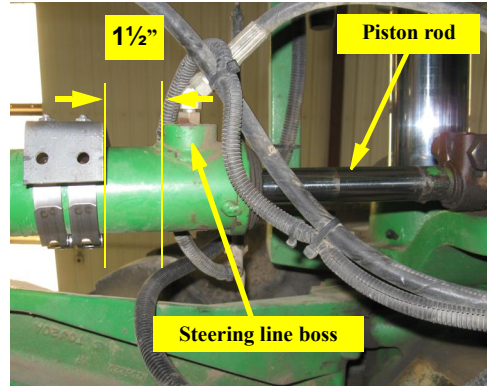

Figure 2b: WAS mounting bracket positioned
- b. Position and tighten the clamp assembly so that the rearmost edge of **WK** is 1½" from the forward edge of the steering line boss (at the piston rod end of the cylinder) (Figure 2b).